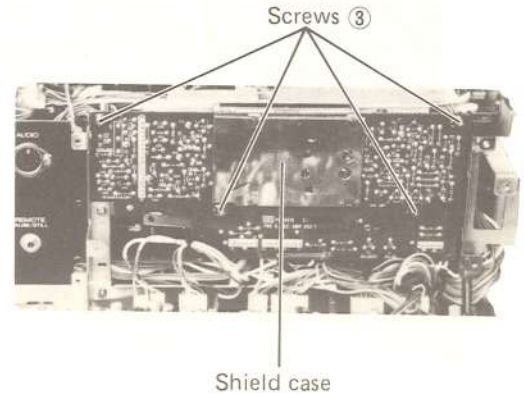

Fig. 3-10
1. Remove the four screws ③ on the printed circuit board as shown in Fig. 3-10.
3. Remove the shield case by using a soldering iron, and unsolder the two wires located inside of the shield case as shown in Fig. 3-10.